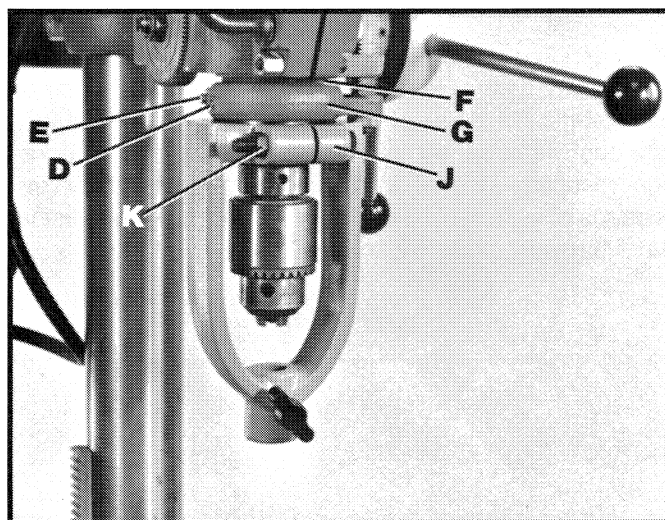

Fig. 9
6. Tighten nut (K) Fig. 9. Make certain stop collar (G) and rubber ring (F) are flush against chisel holder (J). Tighten set screw (D) and hex nut (E). Return spindle to the up-most position.